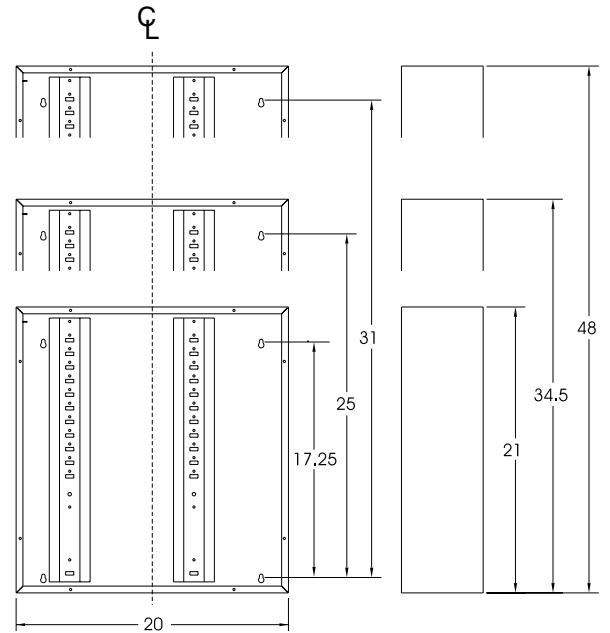

Figure 2 - Cabinet Dimensions (inches)
4. Cabinet Physical Specifications — See Figure 2. SYESB 55lbs(25Kg), SYEMB 70lbs (32Kg), SYELB 80lbs (40Kg) Modules add additional weight.
2. **Mount Cabinet** — Mount the cabinet to structural members as required using the four holes that have been provided in the back of the cabinet. Refer to *Figure 2* for dimensions.